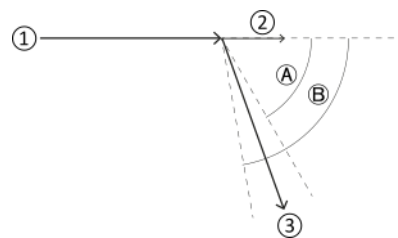

Figure 11.4: Joint type: Joint 1
Legend of figure 11.4 on page 167 : (1) Pre-joint line, (2) Tail, (3) Post-joint line, (A) Min angle for joint 1, (B) Min angle for joint 2